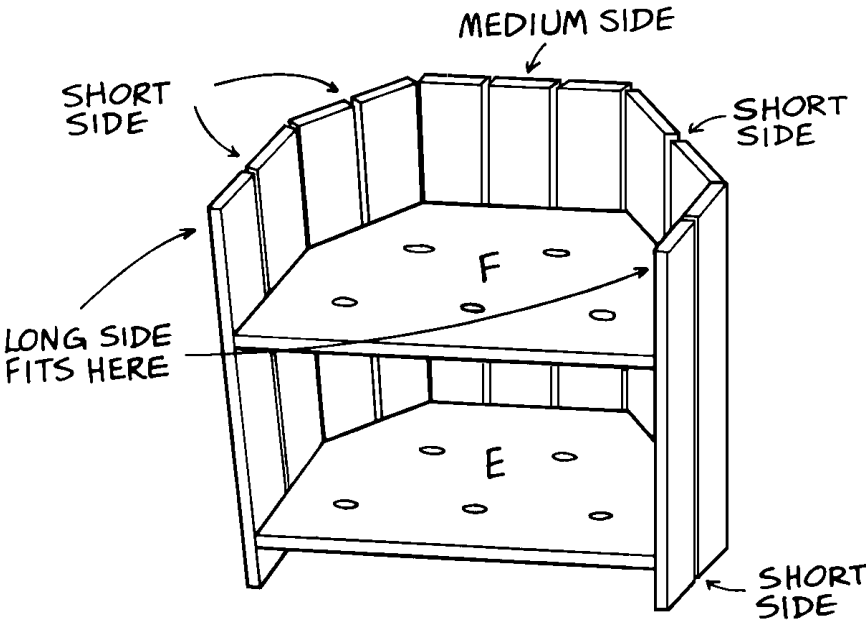

Figure 3
- To attach each base (E) to each side assembly, first position the base over the lower supports (B, C and D), as shown in *Figure 3*. If necessary, trim the base to fit. Glue the base (E) in place and insert 1-1/4" screws through it and into the edges of the supports (B, C, and D), using two screws at each joint. Also insert two 1-1/4" screws through each of the side pieces (A) and into the edges of each base (E).
- Fit a planter bottom (F) into each assembly, as shown in *Figure 3*, making certain that the bottom rests evenly on its supports (B, C, and D) and is level inside the assembly. Glue the bottom (F) in place and insert two 1-1/4" screws through it and into each of the supports (B, C, and D). Also insert two screws through each of the side pieces (A) and into the edges of each bottom.